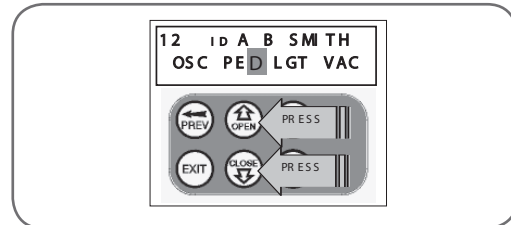

fig 27
2. Press UP or DOWN to change the displayed value (Fig. 27). The available functions are shown below (Fig. 27). Selecting OFF will prevent the opener responding to that button.
3. Press SET to save changes or press NEXT or PREV to move to next field. The example in (Fig. 27) shows that PED is assigned to the transmitter button 2. The transmitter in the example is transmitter number 12 which has the ID label AB Smith.